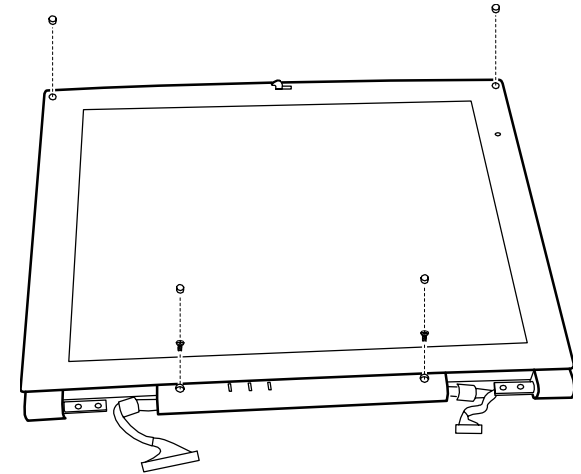

Figure 5-25. Removing the 13.3 Inch LCD Frame
2. Fit the LCD frame back to the housing and replace the two screws and four rubber pads. (Refer to Figure 5-25 earlier.)
2. Place the LCD frame back to the housing. (Refer to Figure 5-25 and 5-23 earlier.)